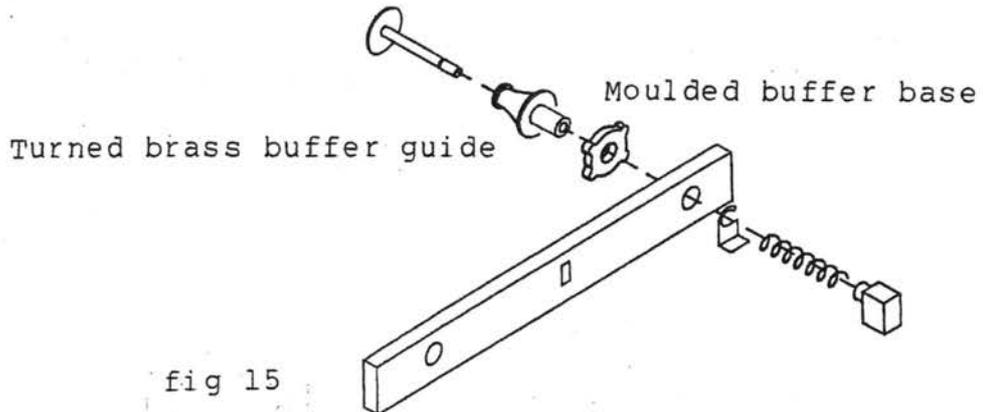

fig 15
37. Following figures 15 & 16, slide the buffer ram into the buffer guide, fold over a little etched spring clip and carefully glue this into the groove towards the end of the buffer ram.